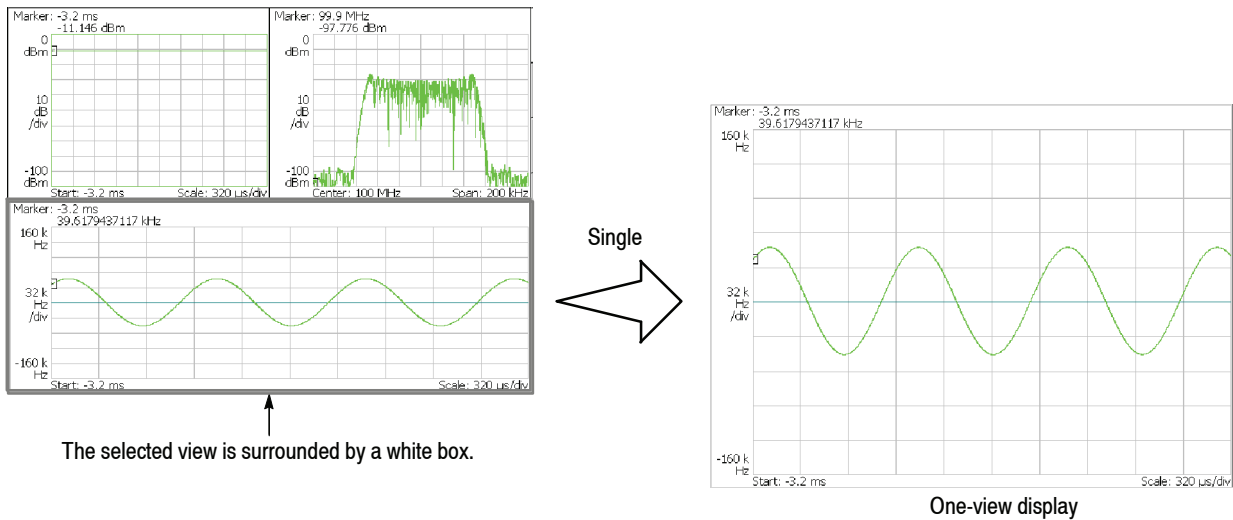

Figure 3-38: One-view display
3. Press the **Show Views** side key to select **Single**. Figure 3-38 shows the one view display.